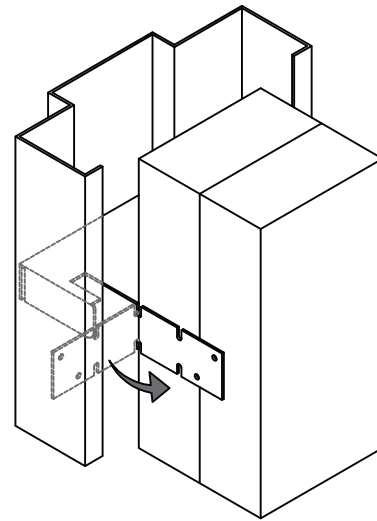
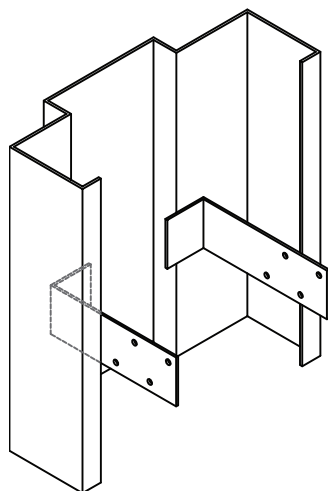
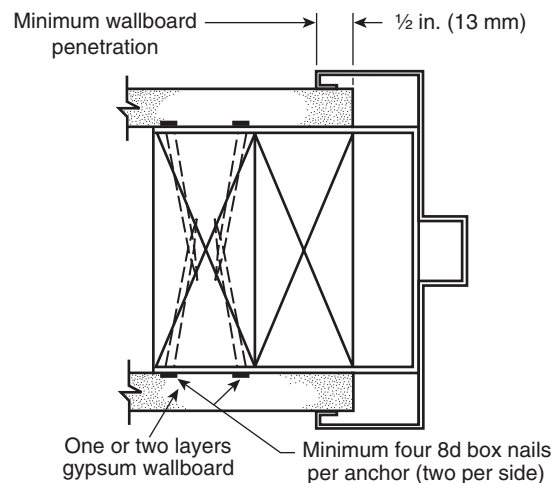

Figure 20 – Snap or weld in anchors wood/steel studs
Figure 19 – Weld in strap anchors wood/steel studs
Figure 21 – Hollow metal steel door frame with wood stud anchors
- 9.7 Bend anchor straps around stud leaving sufficient clearance between frame return and stud for inserting finished wall material (see Figure 19, Figure 20 and Figure 21).